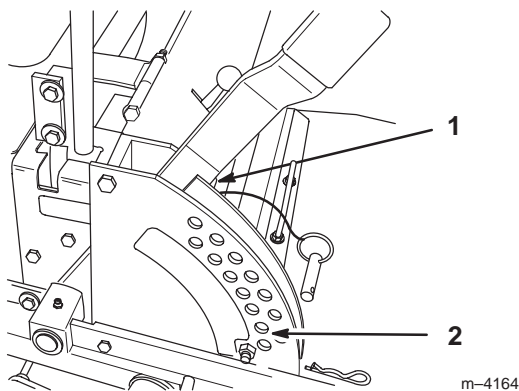

Figure 48
2. Check tire pressure of all four (4) tires. If needed, adjust to 13 psi (90 kPa)
4. Raise the deck to the transport position and take all force off of the two large deck lift springs by loosening nut in front of each spring (Fig. 48).
5. Place two 1-1/2" (38 mm) thick blocks under rear left and right lower edge of mower. Place one 2-1/4" (57 mm) block under front center lower edge of mower. Lower mower to the 2" (51 mm) height-of-cut position (Fig. 48).
1. Raise deck lift lever to the transport position, (Fig. 48).